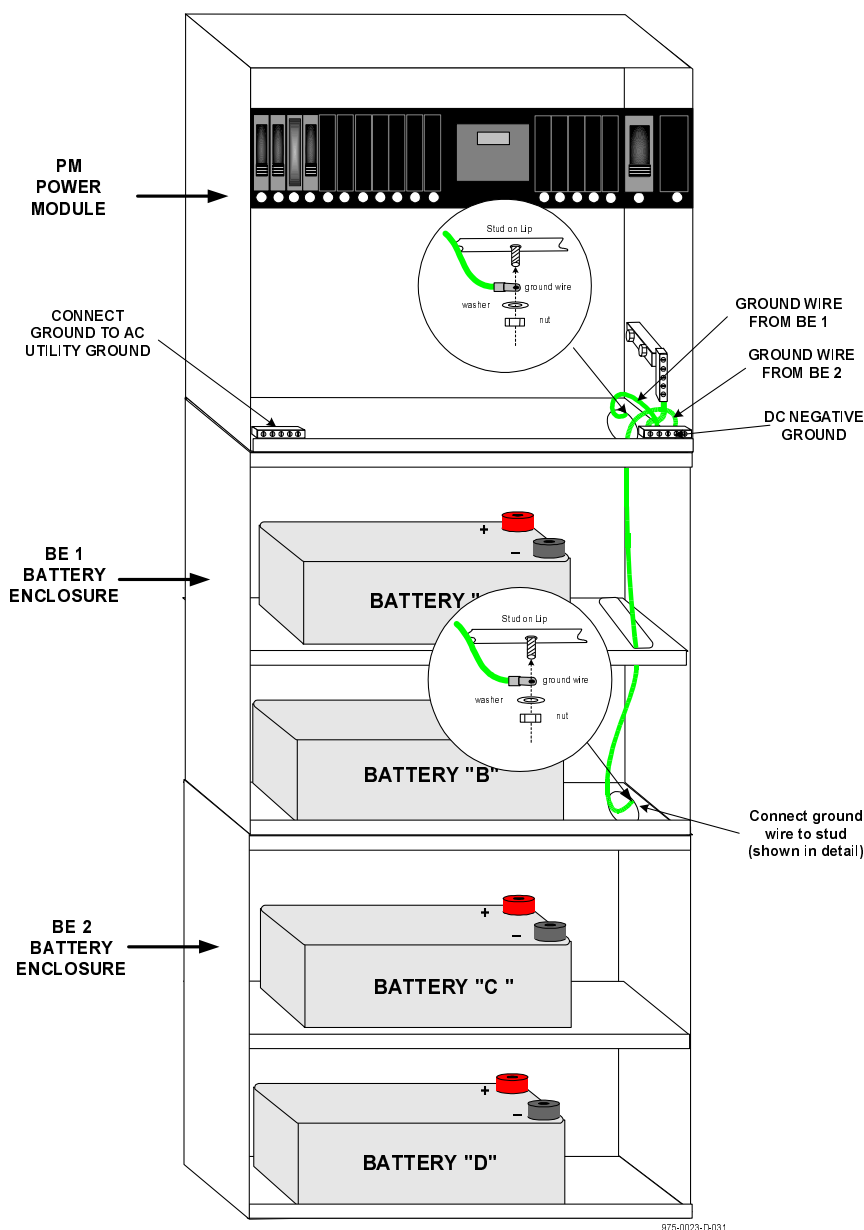

Figure 2-21
9. Run a GROUND wire to ALL battery enclosures and connect to the DC GROUND BUS in the PM. See Figure 2-21.
11. Run a GROUND wire to *ALL* battery enclosures and connect to the DC GROUND BUS in the PM. See Figure 2-21.